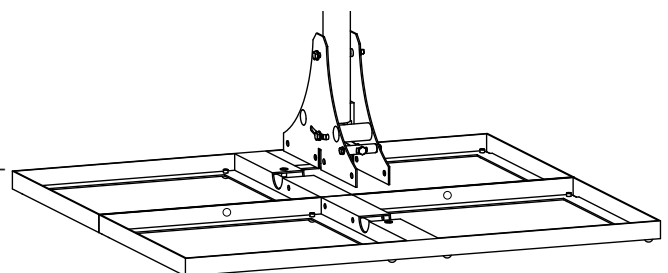

Abb. 2: Aligning the frames
1. Arrange the frames in parallel so that the openings in the separating walls are next to each other (Fig. 2).